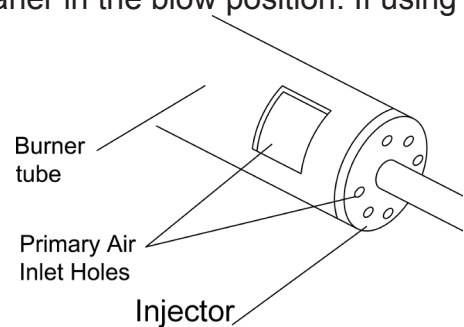

Figure 54– Injector Holder On Outlet Burner Tube
2. Inspect burner, pilot, and primary air inlet holes on injector holder for dust and dirt (see Figure 54).